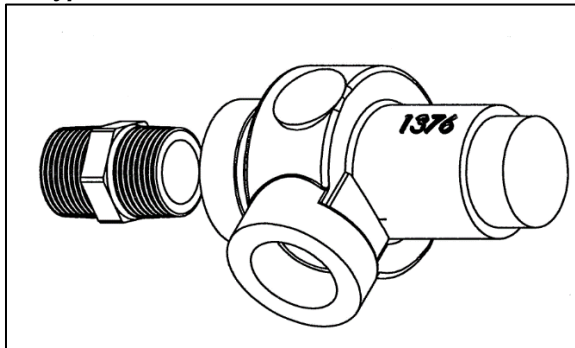

Figure 1
- Ensure that there is a Minimum Pressure Check Valve (MPCV) in place after the coalescing manifold and that it is functioning properly. Figure 1